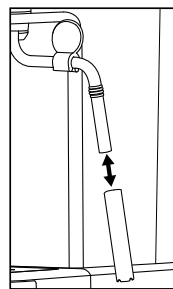

Fig. 3
- 1) Place an empty container under the milk frother ⑧.
- 2) Immediately after use, turn the steam control ⑤ to the  /  position and allow the steam to escape for a few seconds.
- 3) Turn the steam control ⑤ off (as far as it will go in the direction "O"), switch the appliance off and remove the plug from the mains power socket.
- 5) Pull the sleeve off the milk frother ⑧ (see Figure 3), and clean it carefully in warm water with some detergent. Use a small brush, if necessary, to clean the inside of the sleeve as well. Rinse the sleeve afterwards with plenty of clean water.
- 7) Push the casing back onto the nozzle (Figure 3).